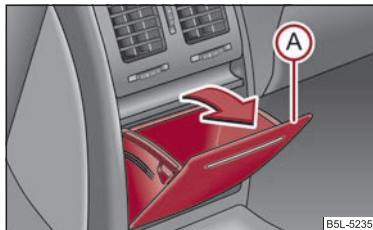

Fig. 97 Centre console at rear: Storage compartment
- Open the storage compartment by pulling on the upper edge of the storage compartment (A) in the direction of arrow ⇒ fig. 97. ▶